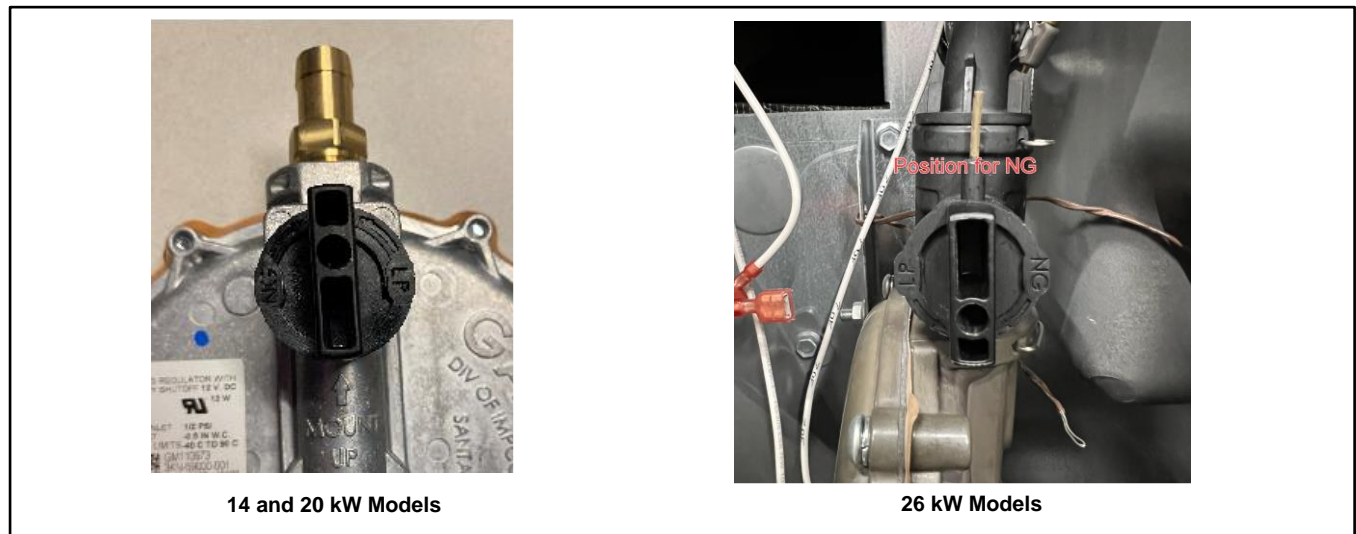

Figure 99 Knob Position, NG
- a. For natural gas (NG), turn the selection knob all the way clockwise. The knob lines up with the UP arrow on the regulator body as shown in Figure 99.